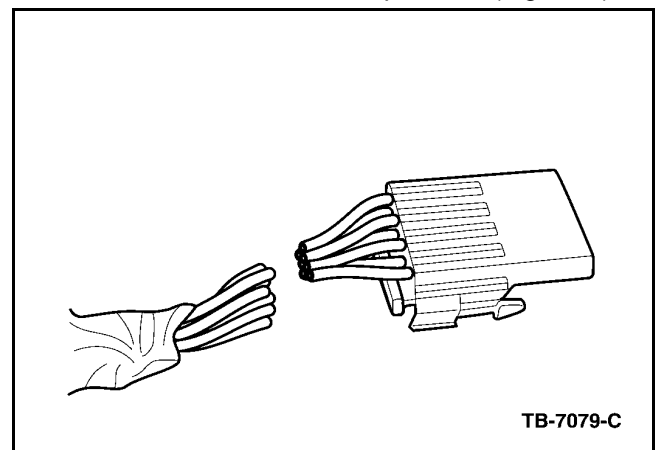

Figure 2 - Article 05-16-12
1. Cut each wire from the extra connector as close to the connector as possible (Figure 2).